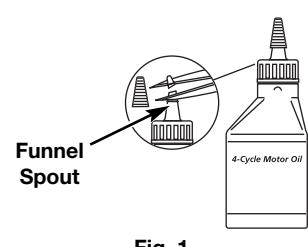

Fig. 1
Your unit is supplied with one 3.04 fluid oz. (90 ml) bottle of SAE 30 SF, SG, SH oil (Fig. 1).
1. Unscrew the top of the bottle of oil and remove the paper seal covering the opening. Replace the top. Next, cut the tip off the funnel spout (Fig. 1).